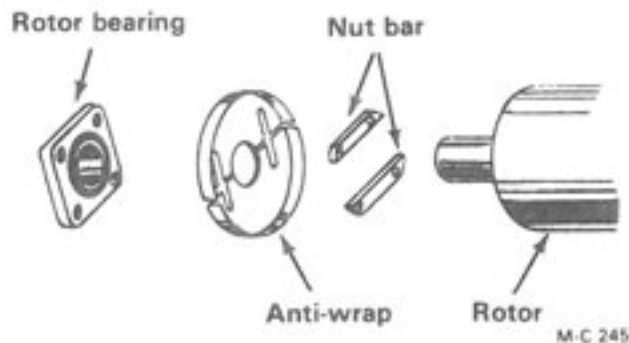

Figure 38
4. Place the four mounting capscrews through the bearing and Shredder body. Refer to Figure 38. Partially thread the capscrews into the nut bars. Slide the two anti-wrap halves over the capscrews. Tighten the capscrews and bearing collar set screw.
6. Place the four mounting capscrews through the bearing and Shredder body. Refer to Figure 38. Partially thread the capscrews into the nut bars. Slide the two anti-wrap halves over the capscrews. Tighten the capscrews and bearing collar set screw.